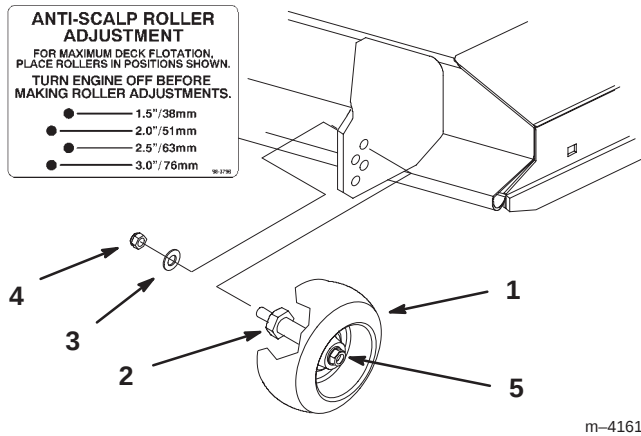

Figure 23
2. After adjusting height-of-cut remove flange nut and spring disk while holding stud with wrench (Fig. 23).
- Note:** Do not remove the wheel nut and washer (Fig. 23).
3. Select hole so gage wheel is positioned to the nearest corresponding height-of-cut desired (Fig. 23).
4. Reinstall the flange nut and spring disk (Fig. 23).